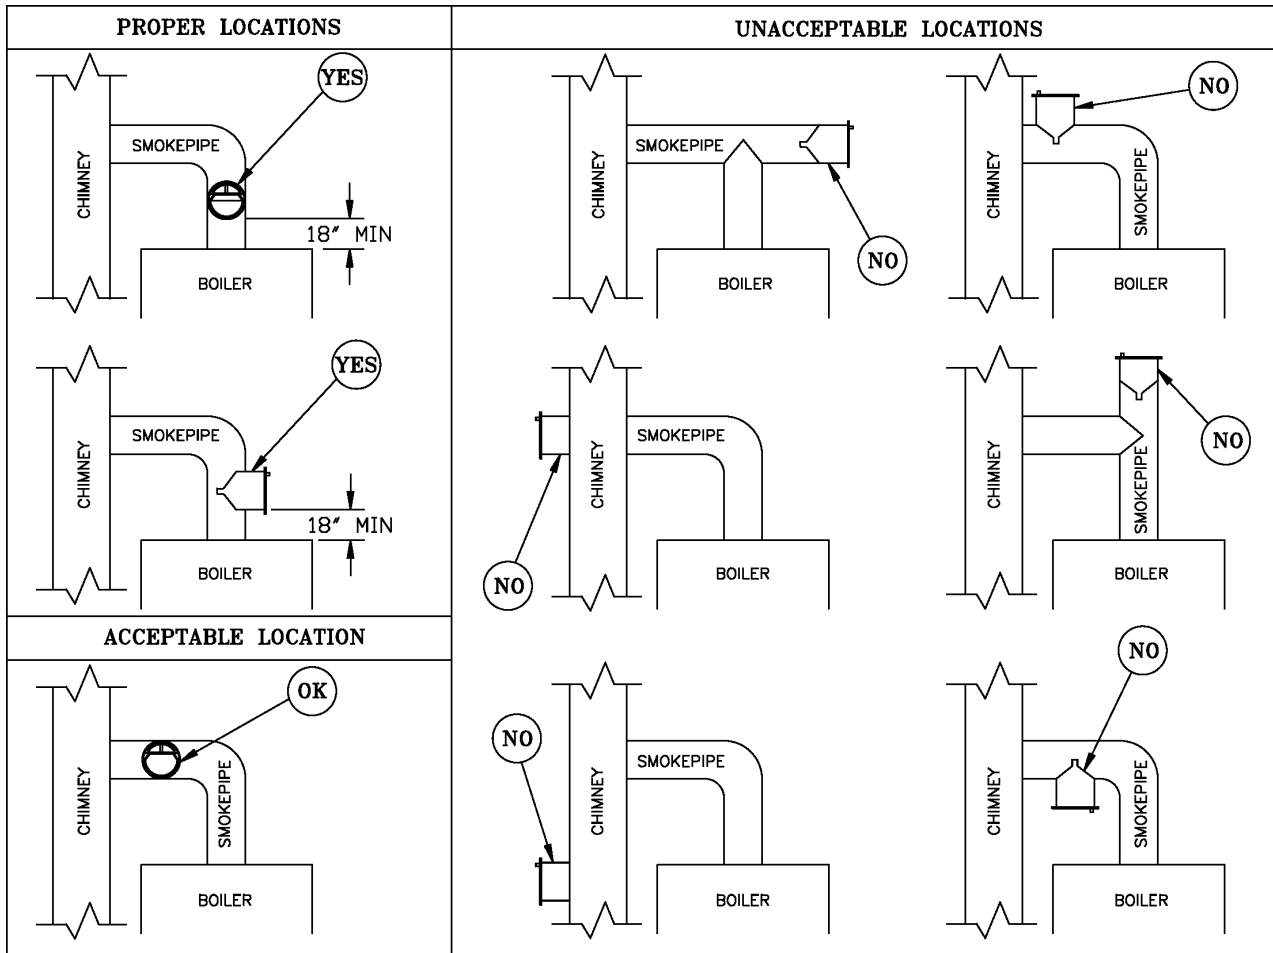

Figure 8: Proper and Improper Locations of Draft Regulator
1. Install a draft regulator (supplied with boiler) following the instructions furnished with the regulator. See Figure 8 for draft regulator locations.